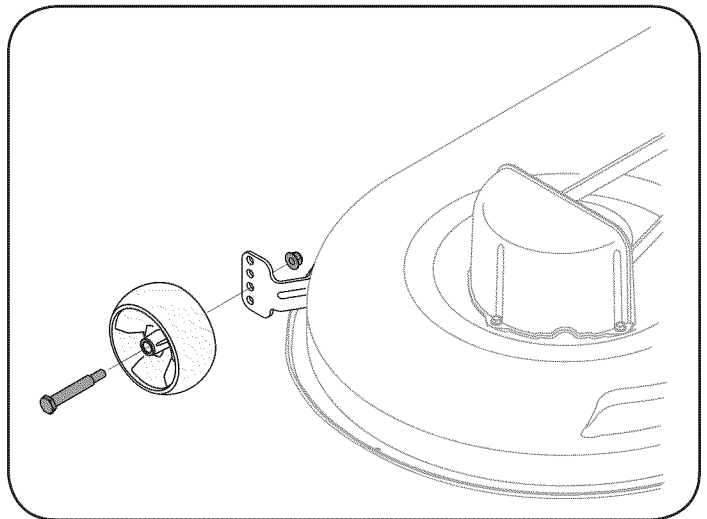

Figure 4
- b. Remove the front and rear gauge wheels by removing the lock nuts and shoulder screws which secure them to the deck. See Figure 4.